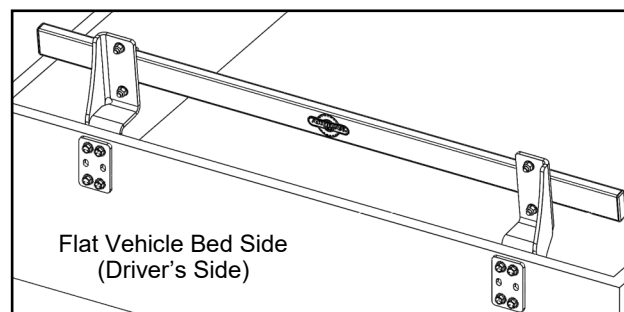

Fig. 4
4. Figure 4 shows a toolbar installed on a vehicle with flat metal bed sides, facing inwards.